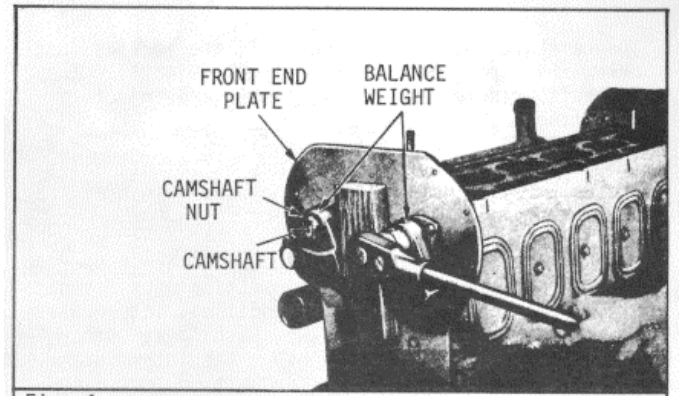
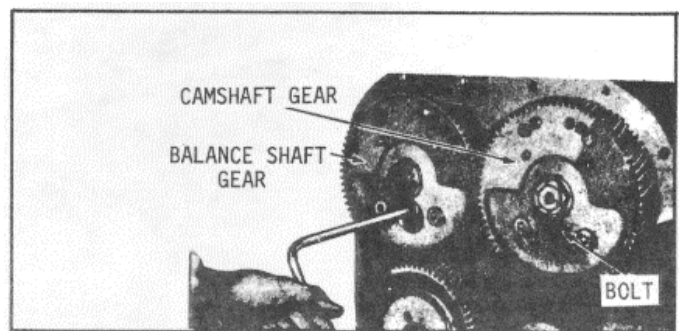

Fig. 4 Loosening Nut on Camshaft or Balance Shaft
Fig. 5 Removing or Installing Shaft Bearing Retainer Bolts
- (1) Drain the engine cooling system.
- (2) Remove all of the accessories and assemblies necessary to facilitate mounting the engine on an overhaul stand (SM6-5-2.0).
- (3) Mount the engine on the overhaul stand. Be sure the engine is securely mounted on the overhaul stand before releasing the lifting sling.
- (4) Remove the cylinder head (refer to SM6-5-5.0).
- (5) Remove the flywheel and flywheel housing (refer to SM6-5-16.0 and 6-5-18.0).
- (6) Remove the front balance weight cover and place a wood block between the balance weights (Fig. 4) or wedge a clean rag between the camshaft and balance shaft drive gears at the rear of the engine.
- (7) Remove the gear nut retaining plates.
- (8) Remove the gear retaining nuts on the gear end of the camshaft and the balance shaft. Remove the nut and lockwasher from the balance weight end of each shaft.
- (9) Remove the front balance weights.
- (10) Remove the thrust washers between the bearings and the balance weight hubs.
- (11) Remove the lock screws that secure the camshaft intermediate bearings.
- (12) Rotate the gears as required to reveal the end bearing retaining bolts. Remove the bolts as shown in Fig. 5.
- (13) Withdraw the camshaft bearing and gear assembly and the balance shaft and gear from the rear end of the cylinder block. If the thrust washers, located between the bearings and thrust shoulders at the front end of the shafts of the engine, are not removed with the shafts, they should be pulled out
- (2) Remove the parts, accessories and assemblies that are necessary to facilitate the removal of the flywheel housing hole cover over the camshaft and the front balance weight cover.
- (3) Remove the cylinder head.
- (4) Remove the front balance weight cover and place a wood block between the balance weights (Fig. 4).
- (5) Remove the gear nut retainer after removing the bolts. Remove the tachometer drive adaptor, if used.
- (6) Loosen and remove the nut at each end of the camshaft.